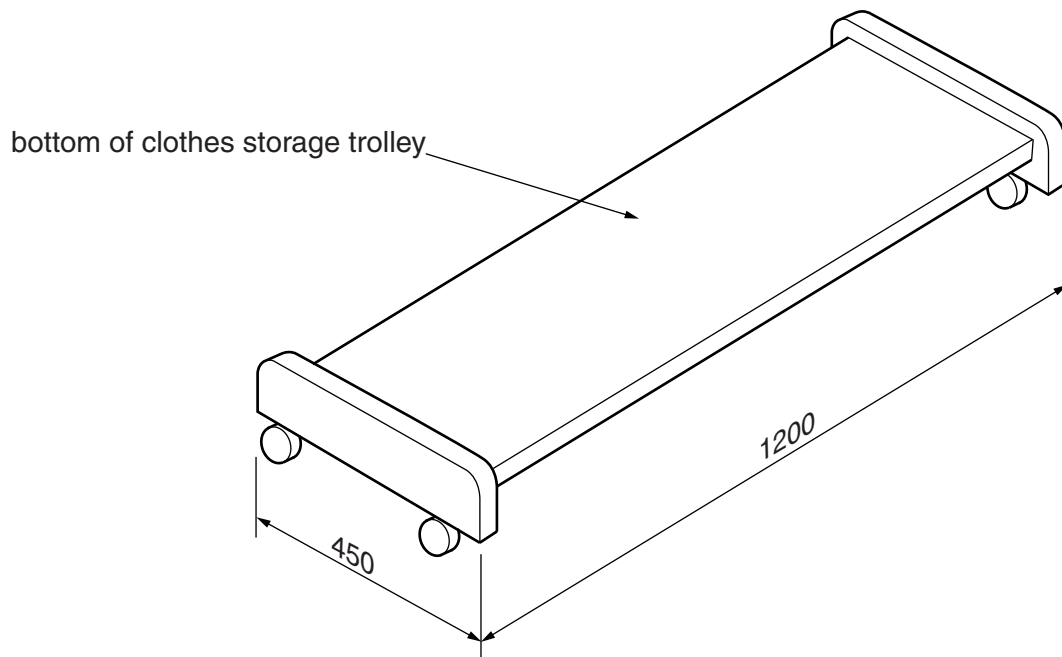

Fig. 8
- 8 Fig. 8 shows an incomplete idea for a mobile clothes storage trolley to be used at a playschool.